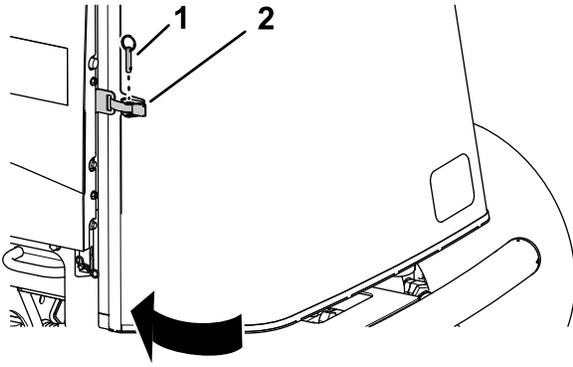

Figure 63
1. Close and latch the screen (Figure 63).